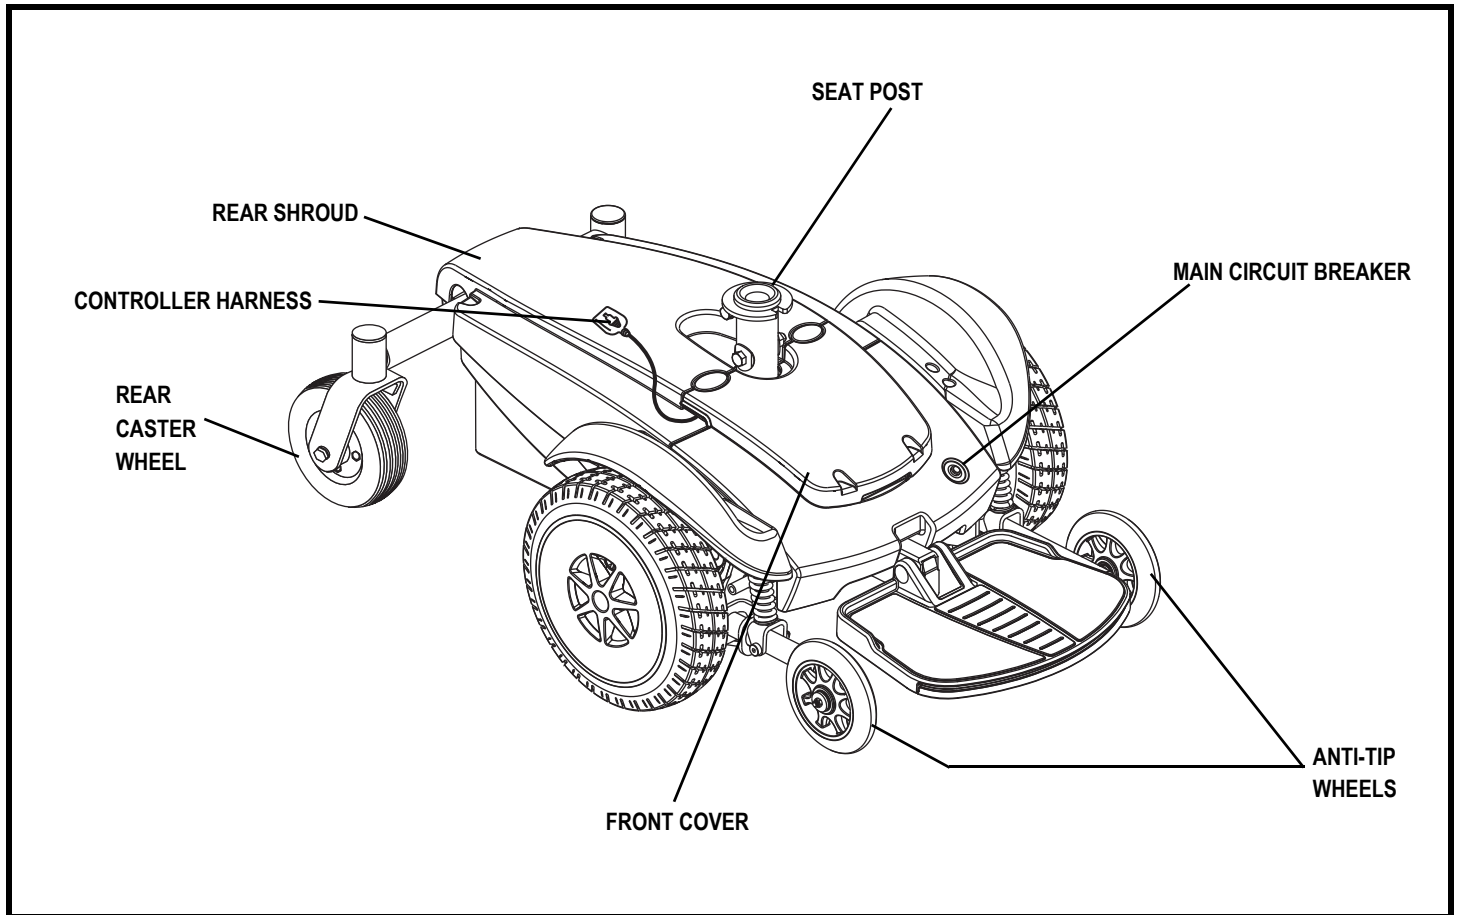

Figure 6. The Jazzy Select GT Power Base
5. Plug the controller cable into the connector on the power base. See figure 6.